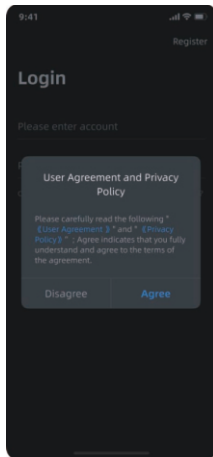

Figure 1
- 1)Figure 1: Unregistered users click on **"Register"** on the login page, read and click on the **"Agree"** agreement, proceed to the next step.